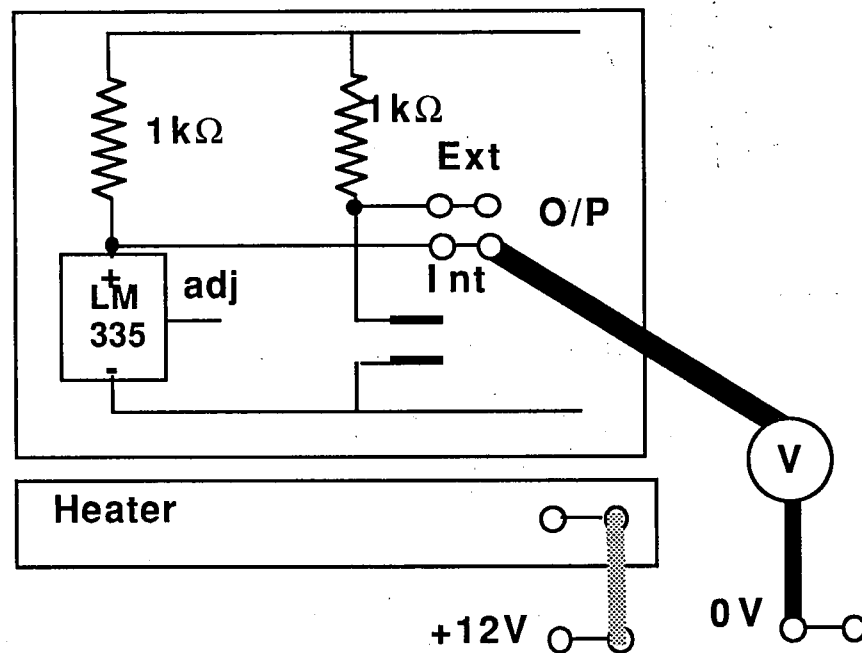

Figure 27
- Connect the voltmeter to the circuit as shown in Fig 27, switch the power supply ON and note the output voltage, this representing the temperature in °K.